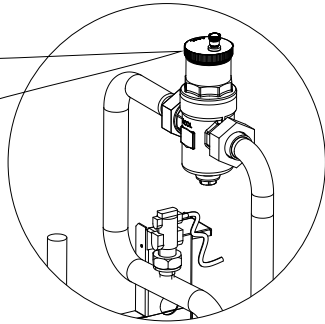

Figure 4-1: Automatic Air Vent
3. The automatic air vent in the heat pump should be open with at least 2 turns from the factory. This should be checked. Remove the top panel and when necessary the right hand panel to access the automatic air vent. Refer to Figure 4-1 and section 1.10.